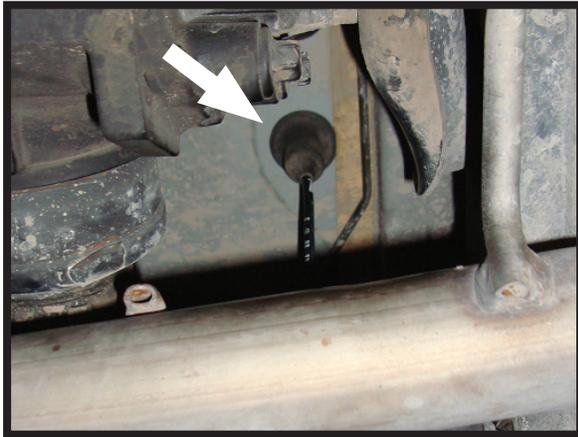

FIGURE 4
6. REMOVE RUBBER BOOT AND DISCONNECT ELECTRICAL CONNECTOR LEADING TO THE SHOCK DAMPER SOLENOID. (FIGURES 4, 5).